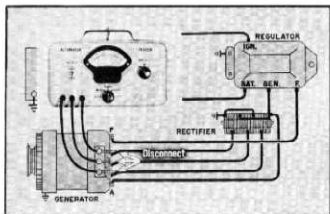

Fig. 48
5. To test only the generator, disconnect all three A-C leads to the rectifier (fig. 48) and repeat the Load and No Load tests.